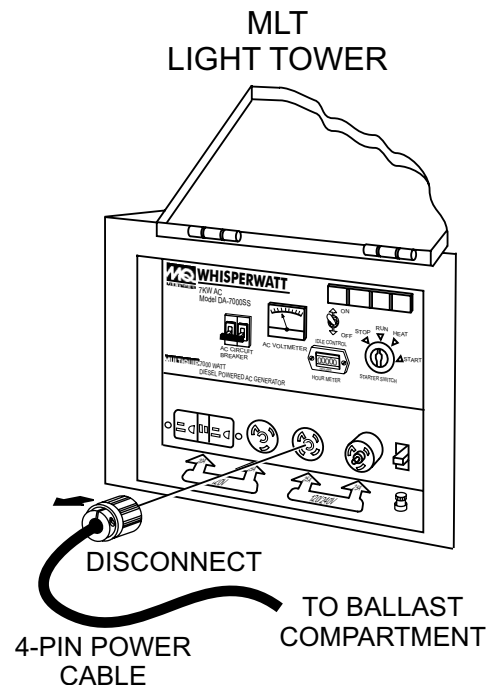

Figure 17. MLT Power Cable Removal
2. For MLT series light towers disconnect the 4-pin power cable (Figure 17) from the 120 VAC twist-lock receptacle on the front panel of the generator.